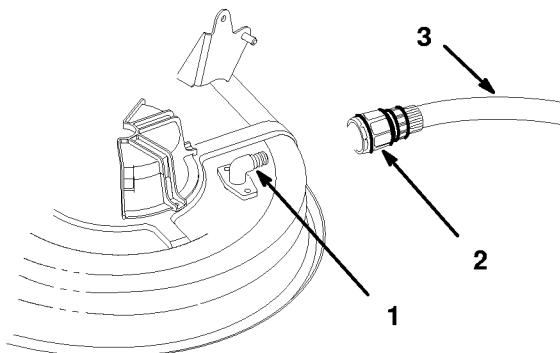

Figure 54
2. Attach hose coupling (not supplied) to mower washout fitting and turn water on high (Fig. 54).